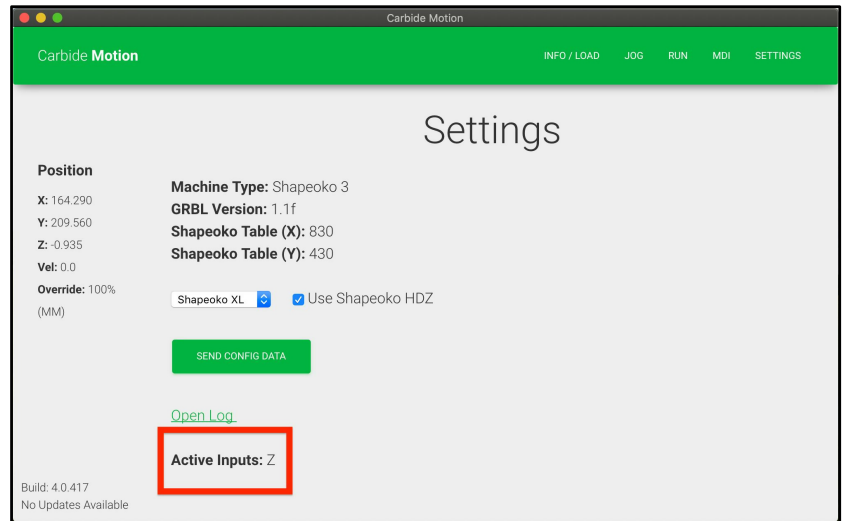

Figure 21
1. Pressing each switch in turn and check to see if it is highlighted in the “Active Inputs” on the Settings dialogue page. See *Figure 21*.